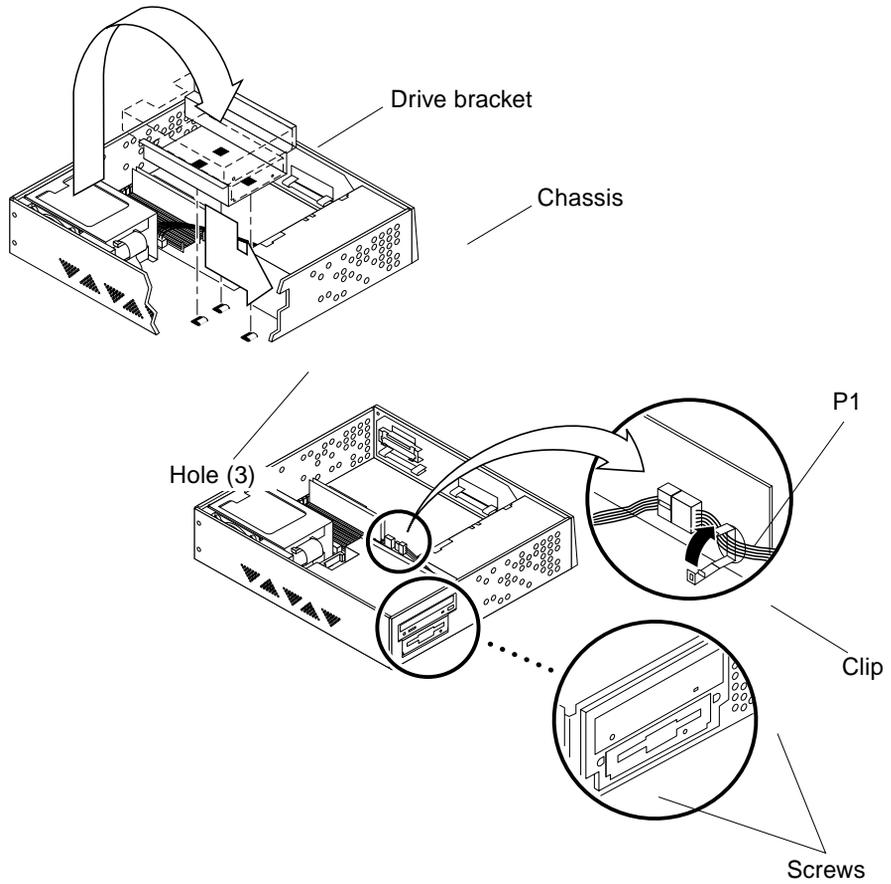

FIGURE 2-13 Positioning the Drive Bracket in the Chassis
3. **Slide the bracket toward the opening in the side of the chassis (FIGURE 2-13).**